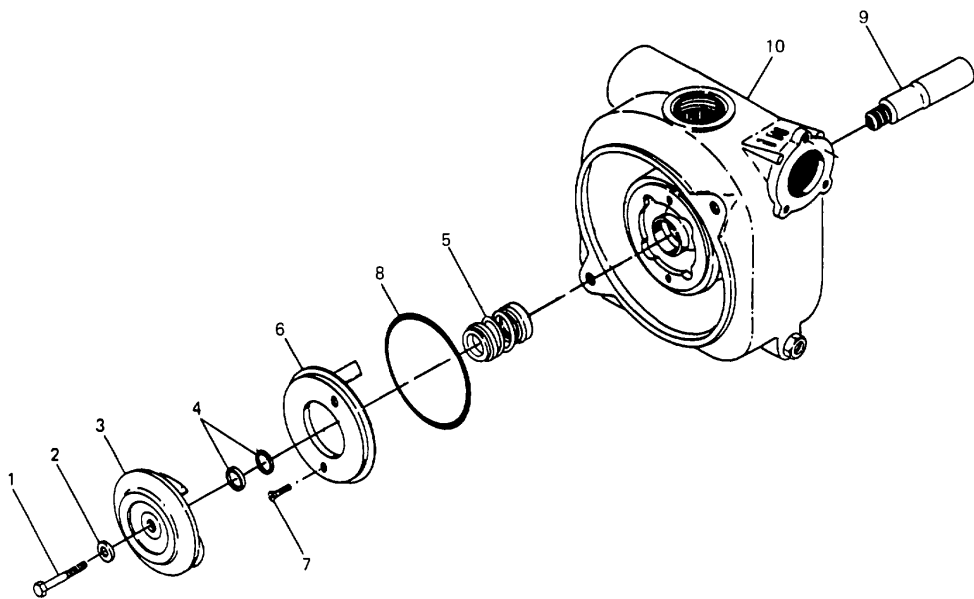
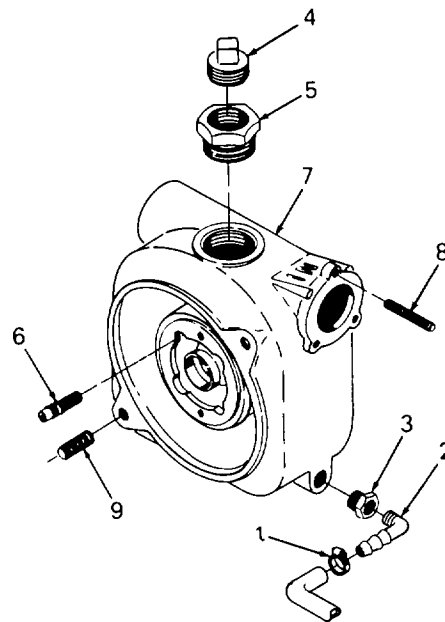

Figure 5-1. Replacing Impeller, Shaft Seal, and Shaft Adapter
Figure 5-2. Pump Casing Assembly
REMOVAL: Refer to Figure 5-1.
When replacing seal, also replace volute O-ring (refer to item 7, Figure 4-26), wear plate O-ring (8, Figure 5-1), and four self-sealing screws (6, Figure 5-2).
- (1) Screw impeller (3) clockwise onto shaft adapter (9) without shims (4). Be sure that the impeller is seated firmly against the shaft shoulder. Secure the impeller with teflon washer (2) and hex bolt (1).
- (2) Measure from the face of the impeller to the face of the wear plate with feeler gauge. Clearance should be 0.010 to 0.015 Inch (0.254 to 0.381 mm).
- (3) Shims (4) are 0.010 inch (0.254 mm) thick and 0.005 inch (0.127 mm) thick. Add any combination of shims to obtain proper clearance.
- i. After proper clearance is obtained, tighten impeller locking bolt (1).